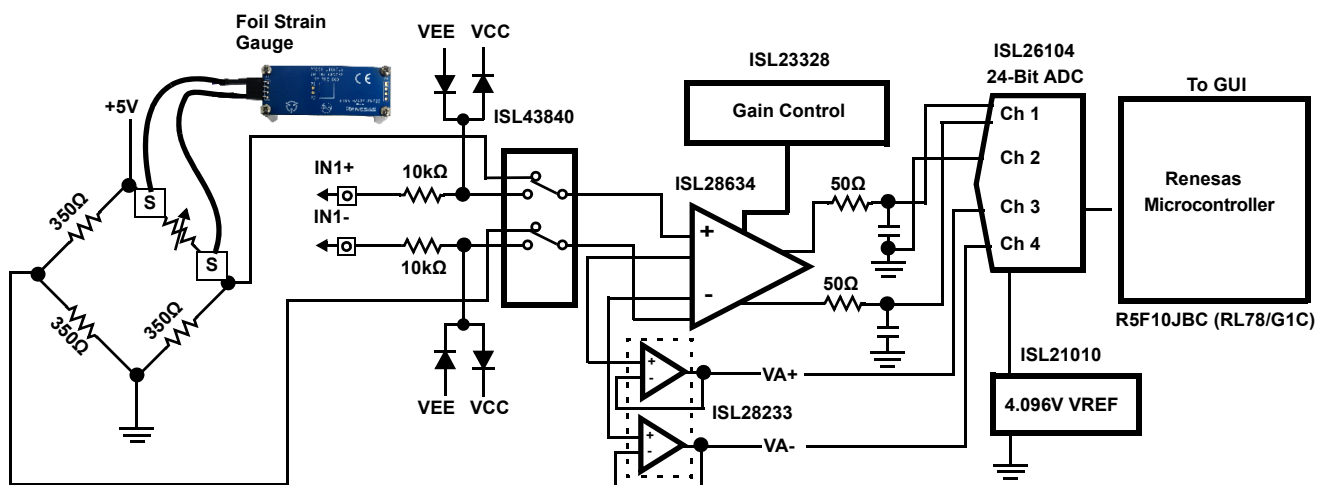
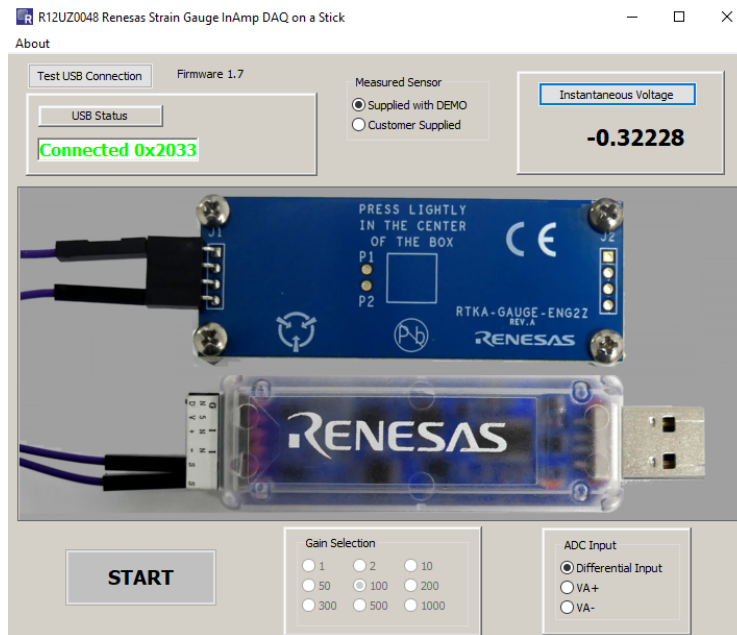
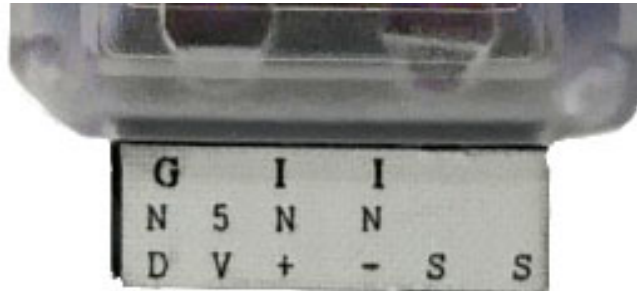

Figure 2. Simplified Strain Gauge Schematic
Figure 3. Startup Screen
Figure 5. Sensor Connector
Figure 2 shows a simplified schematic of the Strain Gauge design. The design uses the Renesas ISL28634 Programmable Instrumentation Amplifier (IN-Amp), ISL23328 Digital Potentiometer, ISL28233 Operational Amplifiers, ISL43840 dual 4-channel Mux configured as a Differential Mux, ISL21010 3.3V and 4.096V precision voltage references, ISL26104 24-Bit Delta Sigma Converter, and R5F10JBC (RL78/G1C) Microcontroller.
The Startup Screen (Figure 3 on page 4) allows you to perform the following configurations:
1. After the software is installed and the Setup Screen in Figure 3 appears, plug the RTKA-BDGSTKEV1Z board into a USB port on the computer. The green LED on the RTKA-BDGSTKEV1Z turns on.
3. From the Startup Screen (Figure 3), click **Instantaneous Voltage** to get a single voltage reading, select the sensor input to measure, adjust the amplifier gain, or click **Start** to go to the Measurement Display screen shown in Figure 6 on page 8. The green LED on the board turns off.
The RTKA-BDGSTKEV1Z reference design gives you the option to measure the strain on an internal bridge with a foil gauge (supplied with the evaluation board) or connect an external sensor to monitor the voltage reading on the GUI screen. Select the **Supplied with DEMO** sensor or **Customer Supplied** sensor by clicking the appropriate radial button at the top of the Startup Screen shown in Figure 3. The **Supplied with the DEMO** sensor (foil gauge) is the default value in the software with a gain of 100V/V. Figure 5 shows the external connector inputs that connect the sensor to the circuit shown in Figure 2 on page 2.
2. Connect the opposite end of the wires to the far edges of the foil gauge board. See Figure 5.
1. Plug the wires into the IN+ and IN- ports shown in Figure 5.